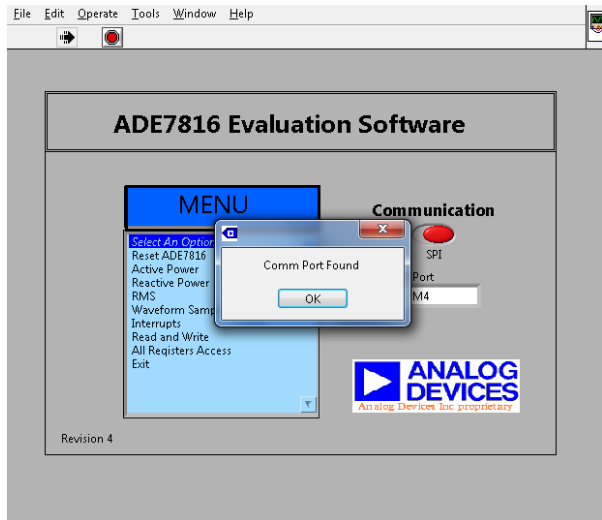
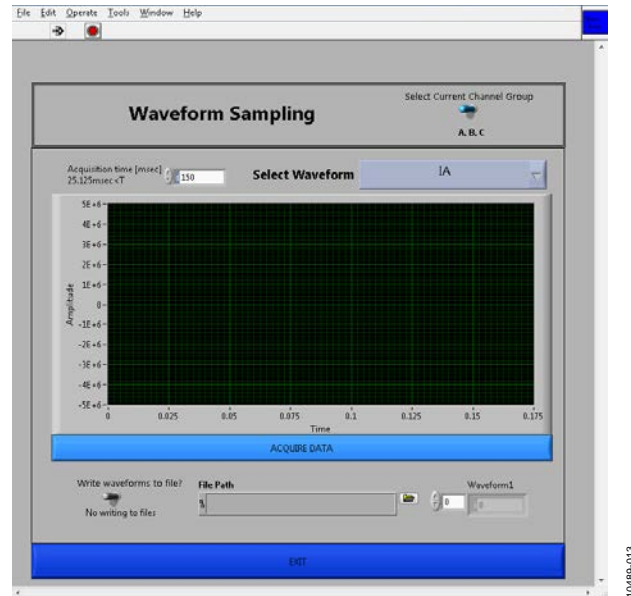

Figure 7. **ADE7816** Evaluation Software Main Window
Figure 13. Waveform Sampling Window
When the evaluation software is running, it automatically detects the COM port that the **ADE7816** evaluation board is connected to. If the port detection is successful, the COM port number appears in the **Port Control** field, as shown in Figure 7 (COM4 in this example).
1. Click **Yes** to return to the **ADE7816 Evaluation Software** main window (see Figure 7).
The ADE7816 evaluation software allows access to all registers and features of the ADE7816 using SPI, I²C, and HSDC communication. By default, the evaluation board is configured to be used with SPI. To change the mode of communication to I²C, change the JP31, JP32, JP33, and JP34 jumpers to Position 1, Position 2. Then, change the communication switch in the main window of the evaluation board software to I²C (see Figure 7). Once a menu option is selected, the communication mode locks. To change the communication after this time, the ADE7816 must be powered down by removing the power on P9.
These options provide access to all internal registers and allow the evaluation of the performance of the ADE7816 (see Figure 7). To access these functions, click the desired option in the MENU panel. Click on an option under MENU to display a window where the specific function can be accessed.
The **Waveform Sampling** window is shown in Figure 13. To use the **Waveform Sampling** window, I²C must be selected as the communication interface (see Figure 7) in the **ADE7816 Evaluation Software** main window. The I²C interface is used in conjunction with the HSDC interface (see the **ADE7816** data sheet).
Next, go to the **ADE7816 Evaluation Software** main window and click **Exit** from the menu drop-down list (see Figure 7). Verify that the correct COM port is selected and ensure that the currently configured communication mode is selected in the pull-down list. Refer to Table 1 to verify that the correct jumpers are installed for the selected communication interface.